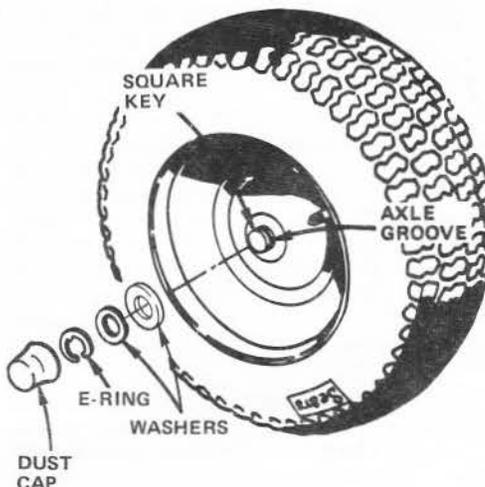

FIGURE 36
- e. Removing rear wheel for tire repair (Fig. 36).